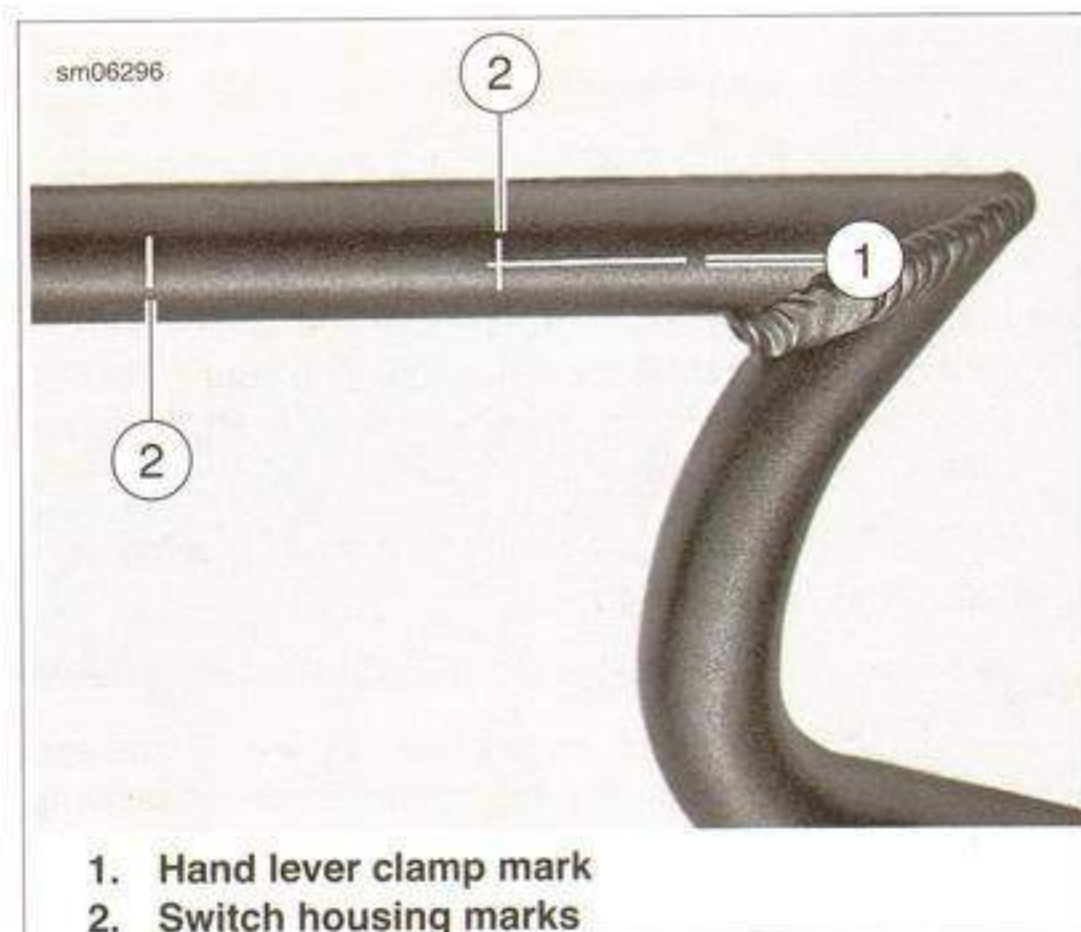

Figure 7-101. Hand Lever Clamp and Switch Housing Marks: 1125CR
1125CR: See Figure 7-101. Adjust the switch housings to align the housing between the two etched lines (2) on the handlebar.